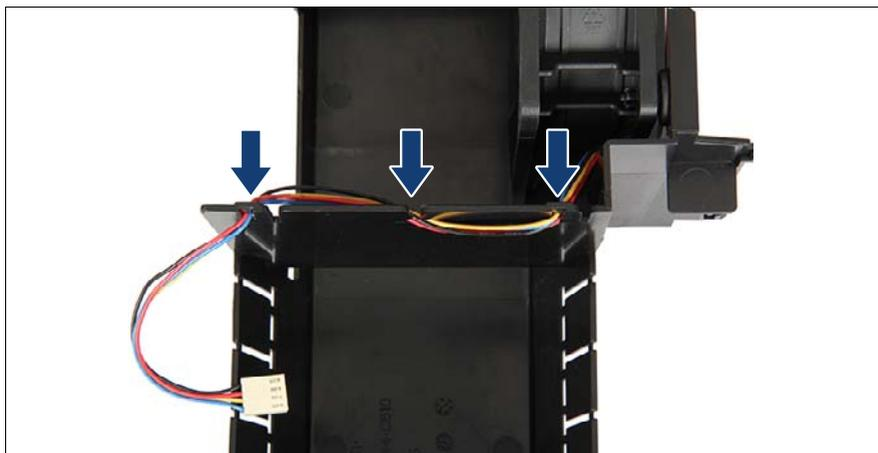
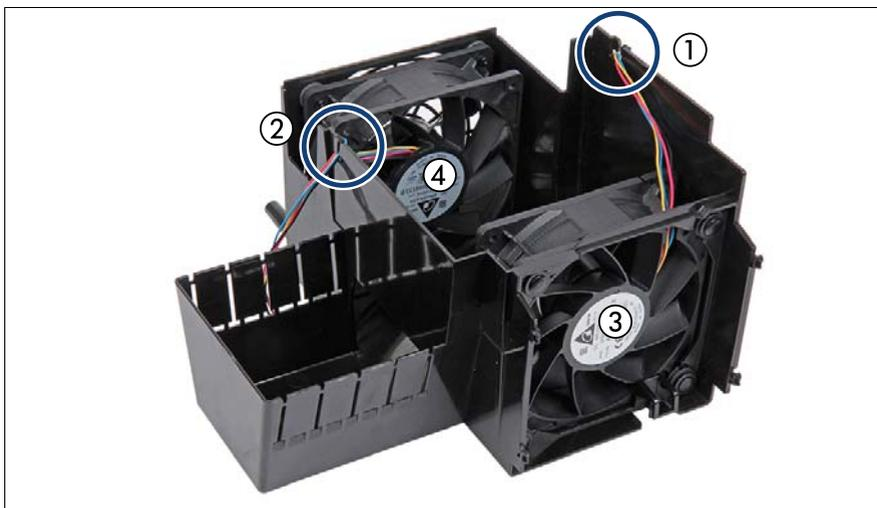

Figure 173: Standard system fan: Removing the fan cable from the guidings
Figure 174: Redundant system fan: Removing the fan cable from the guidings
i Take note of the mounting direction! The labels of all system fans must show to the rear (see figure 174).
- ▶ Insert and tightly push the four safety pins into the snap rivets (2).
- ▶ Take note of the air flow (3).
- ▶ Insert the fan cable in the corresponding guidings (see figure 173 and figure 174).